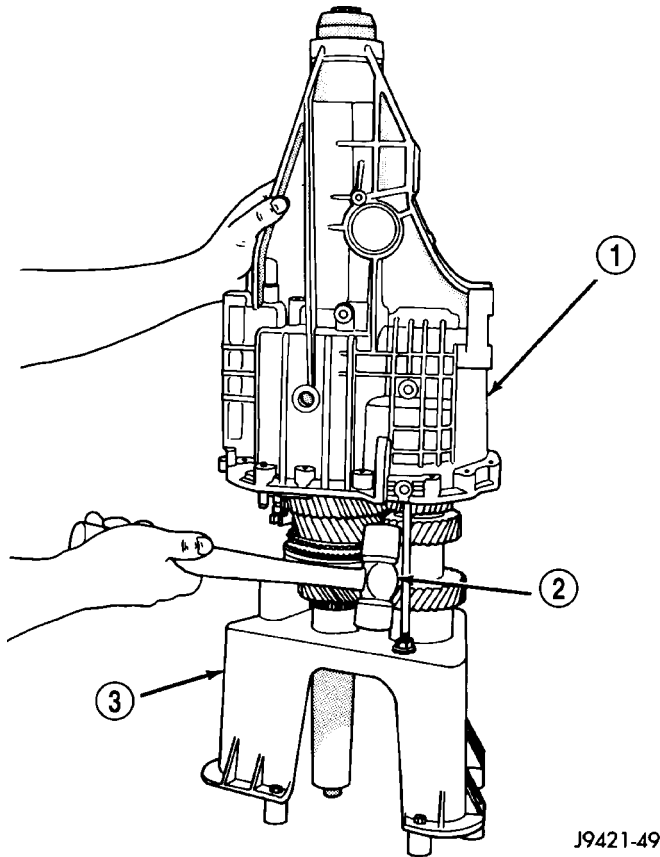

Fig. 29 REAR HOUSING - 2WD
(2) Tap rear housing upward and off output shaft bearing (Fig. 29).